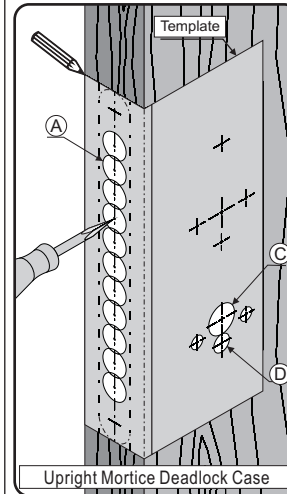

Fig. 1
- Mark position at HOLES C & D (euro cyl), then mark bolt through fixing positions for cylinder escutcheon, or backplate. See Fig 1.